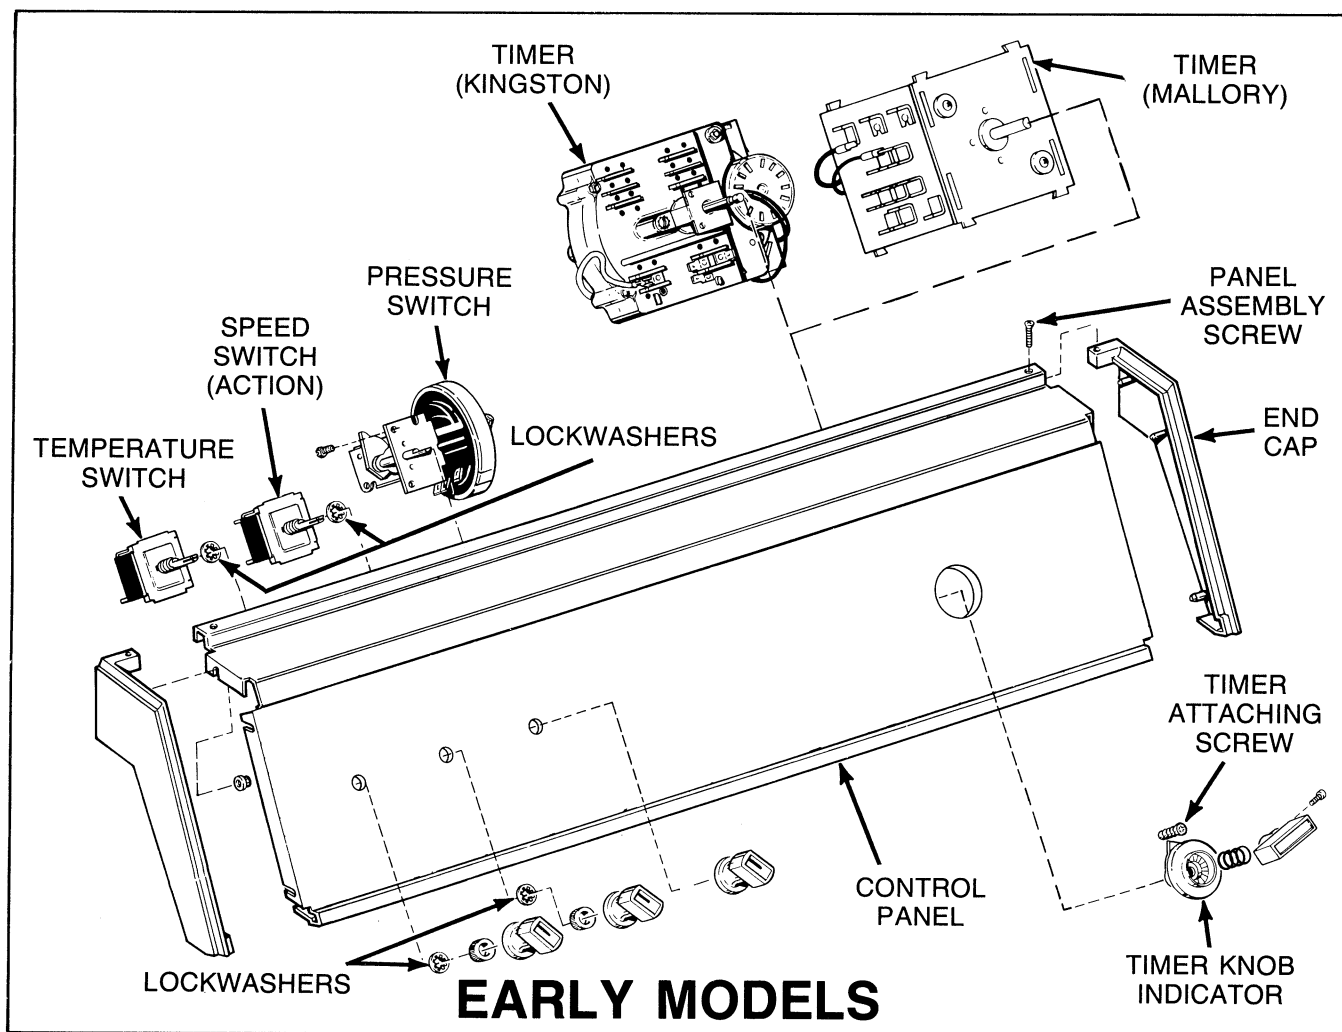

Figure 5
5. **CONTROL PANEL** (Refer to Figure 5 or 6)
NOTE: When reinstalling timer knob assembly, pin in timer shaft must be positioned in slot in timer knob indicator, Figure 5.
EARLY MODELS (Refer to Figure 5)
- Remove three Phillip head screws holding timer to control panel bracket, Figure 5.
Refer to *Figure 5 or 6* for switch removal.